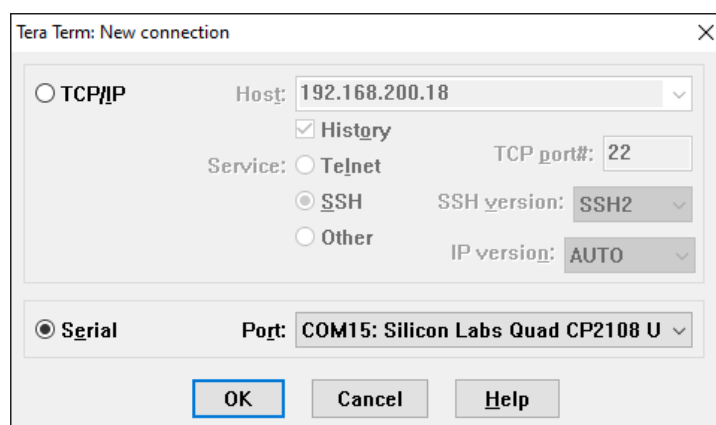

Figure 43: Connection for the SEM UART dialog box
11. If shared libraries are used set paths to in the **Environment** tab (see Figure 43)